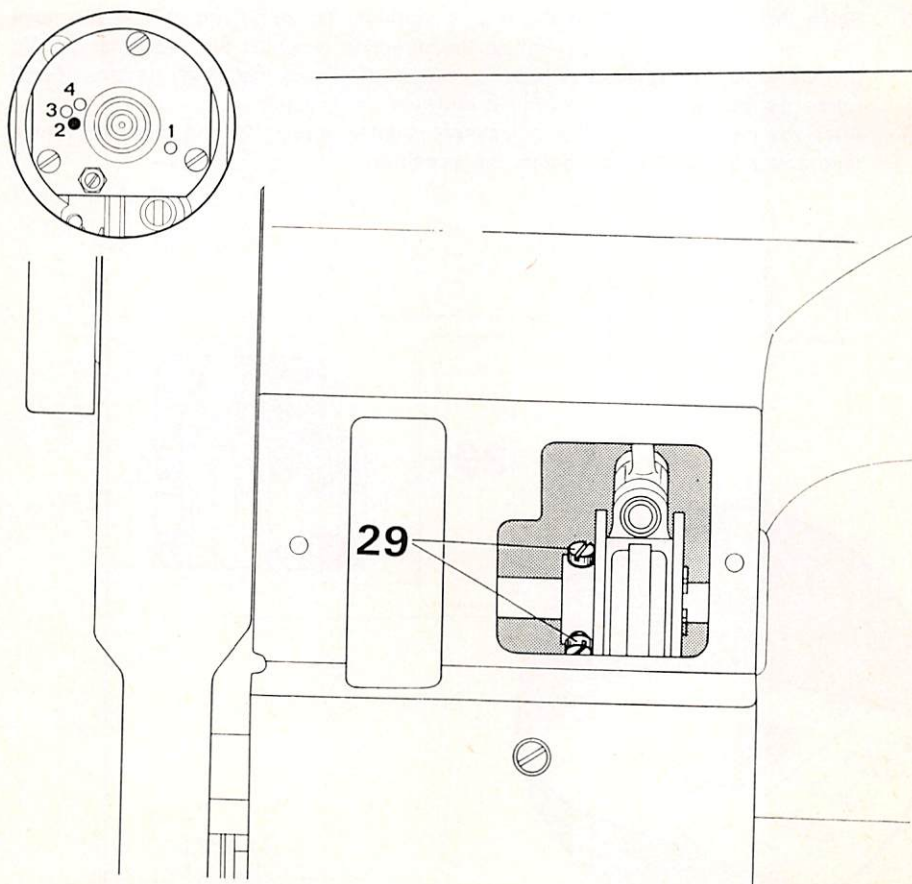

Fig. 9
6. **Adjusting the Needle Throw** (Fig. 9)